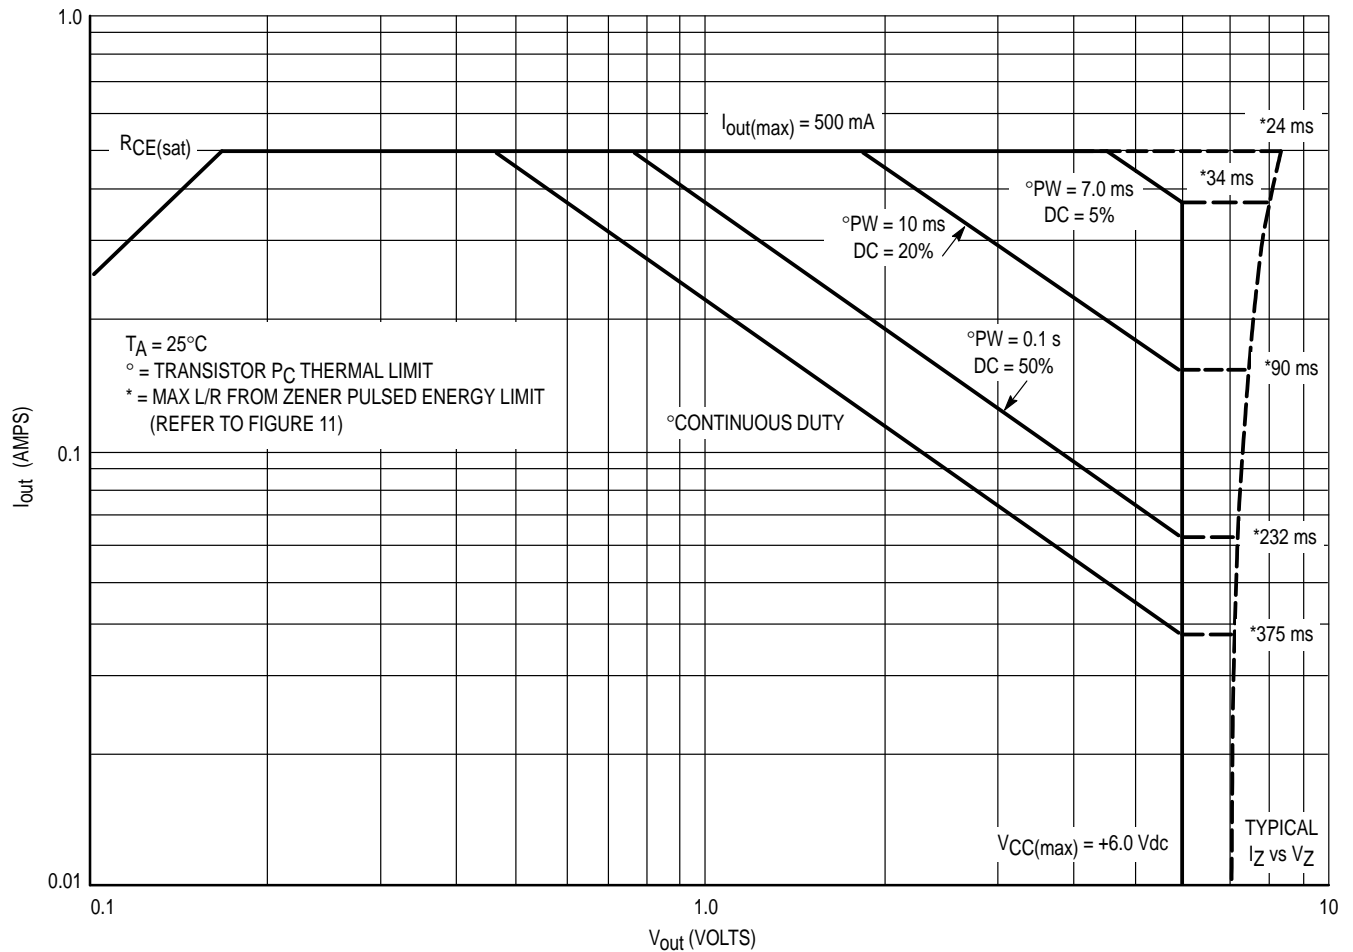

Figure 10. Safe Operating Area
Figure 10 is the Safe Operating Area (SOA) for the MDC3105LT1. Device instantaneous operation should never be pushed beyond these limits. It shows the SOA for the
3. Use Figures 10 & 11 with the SOA notes above to insure that instantaneous operation does not push the device beyond the limits of the SOA plot.